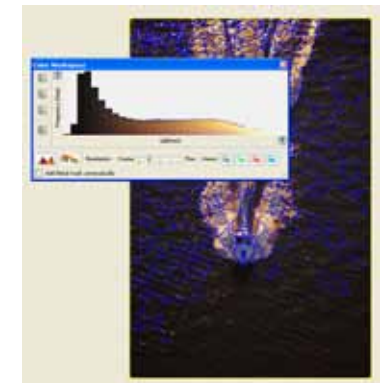

Fig. 16 - The **Color Workspace** dialog is a histogram of the bitmap hues (i.e., shadows, midtones and highlights).
9. Choose the **Rectangular Patch** tool (R).
11. The **Color Workspace** dialog will appear, which shows the distribution of shadows, midtones and highlights within the bitmap (Fig. 16).